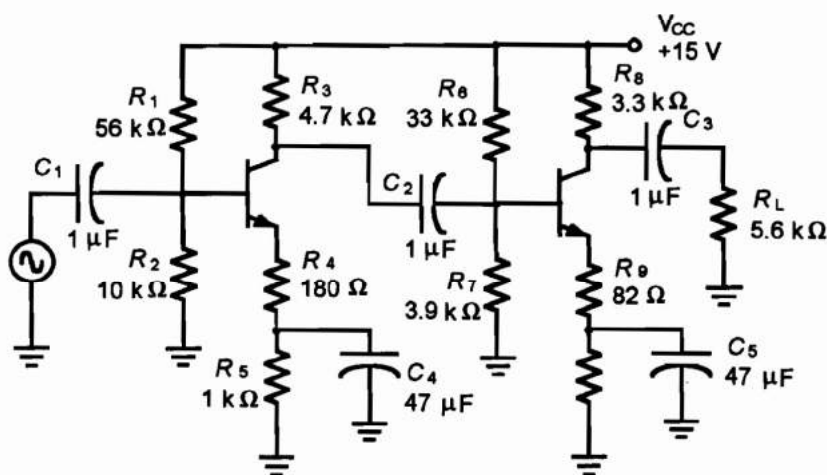

Figure 21.1
1. Construct the two-stage amplifier of Figure 21.1.